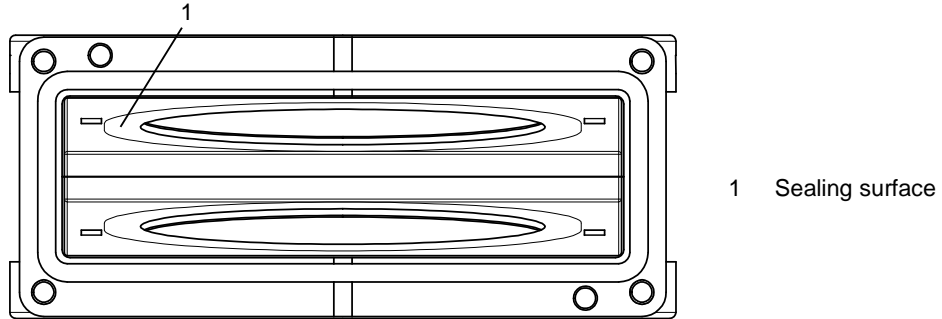

Figure 7-3
8. Clean gate sealing surfaces (1) (seat side) and other surfaces inside valve body; see «Figure 7-3».